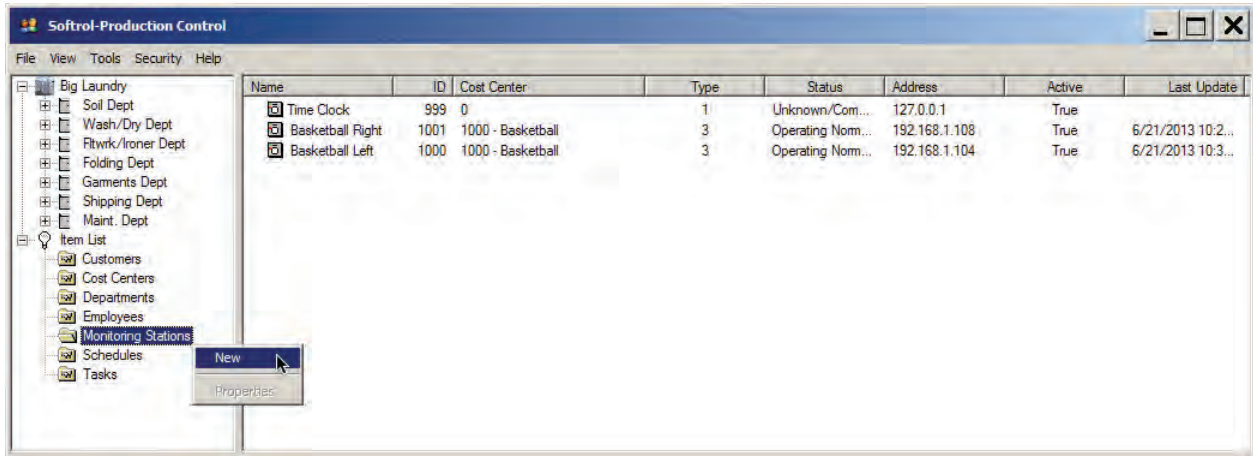

Figure 53. Select and then right-click **Monitoring Stations** and select **New**.
5. Right-click the selected **Monitoring Stations** in the Items List (see Figure 53).